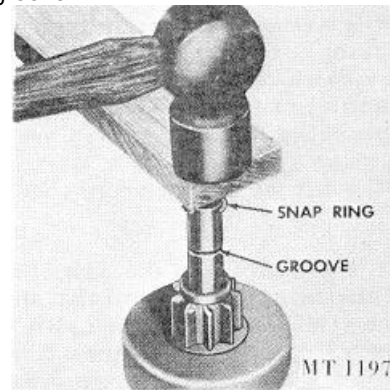

Fig. 10. Installing Snap Ring
- b. Place the snap ring on the end of the shaft. With a piece of wood on top of ring, force the ring over the shaft with a light hammer blow, Fig. 10; then slide the ring down into the groove.